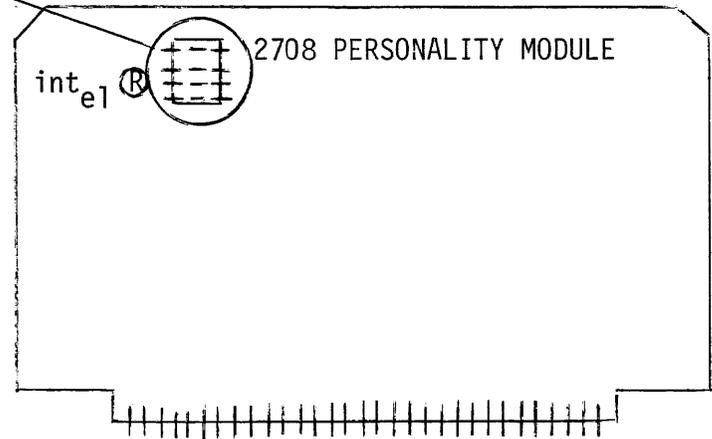

FIGURE 4-2
- 1) The PROM address logic examines the 12-bit address from the Control Board. A bank of switches (S1) is incorporated in the PROM address logic. The state of these switches should reflect the type of PROM (2708 or 2704) being programmed. See Figure 4-2 for the location and switch settings of S1. The PROM Programmer operator may change the setting of S1 if necessary. (Refer to Section 7.2 for instructions for the removal and installation of Personality Cards.) Based on the state of S1 the PROM Address logic can determine if the 12-bit address exceeds the bounds of the selected PROM. If it does, the logic will activate the address out of bounds line (AOOB/) to port 1 of a 4001 ROM (A11).